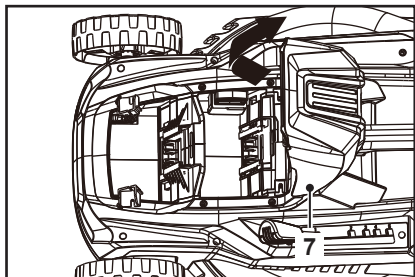
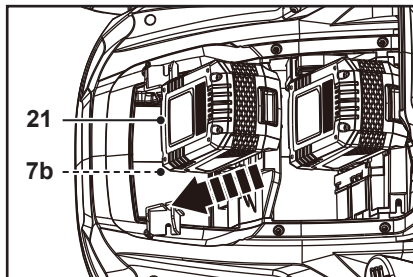

Fig. 6
Fig. 7
1. Hold the groove (7a) and open the battery cover (7) (Fig. 6).
2. Remove the safety key (7d).
3. Slide the two battery packs (21) into the slots (7b) (Fig. 7).
5. The battery packs (21) can only be installed in one direction.
6. Reinstall safety key (7d) to its slot.
7. Close the battery cover (7). The product is now ready to use.